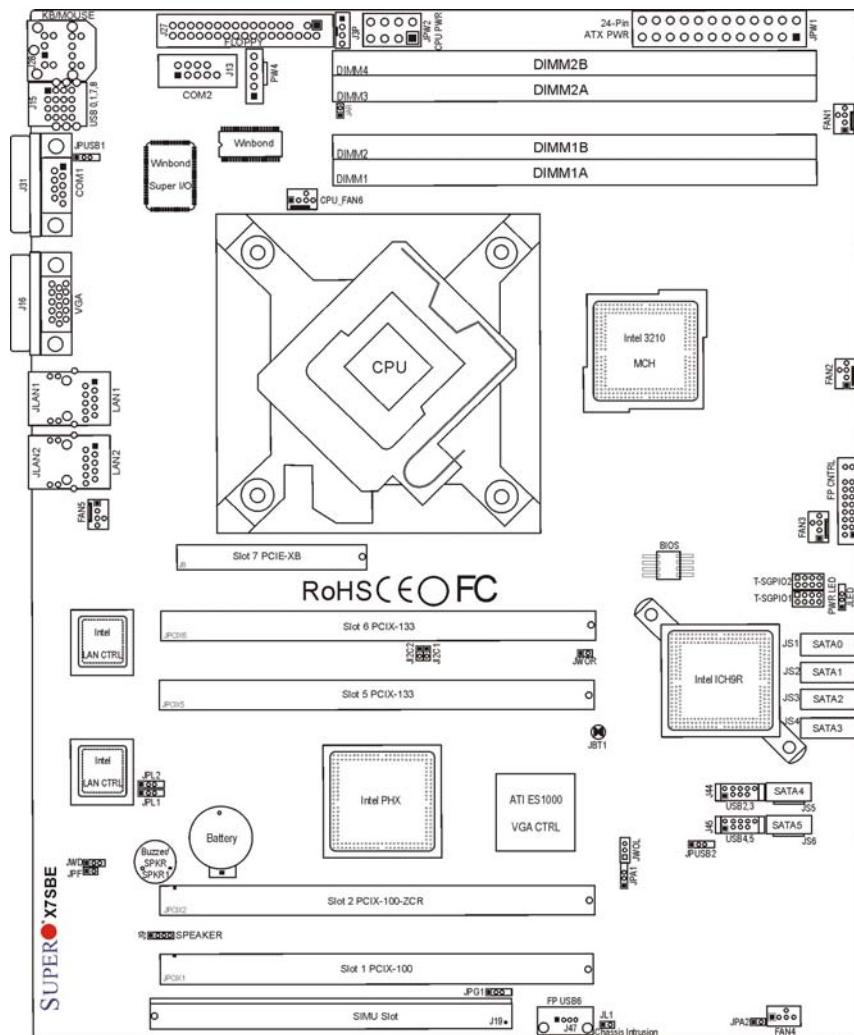

Figure 11: System board internal cable connectors
8. Connect the CPU fan cable to the CPU Fan 6 connector. See Figure 11 on page 103.
**Note:** To assist you in reconnecting the cables to the system board. See the following table and Figure 11 on page 103.